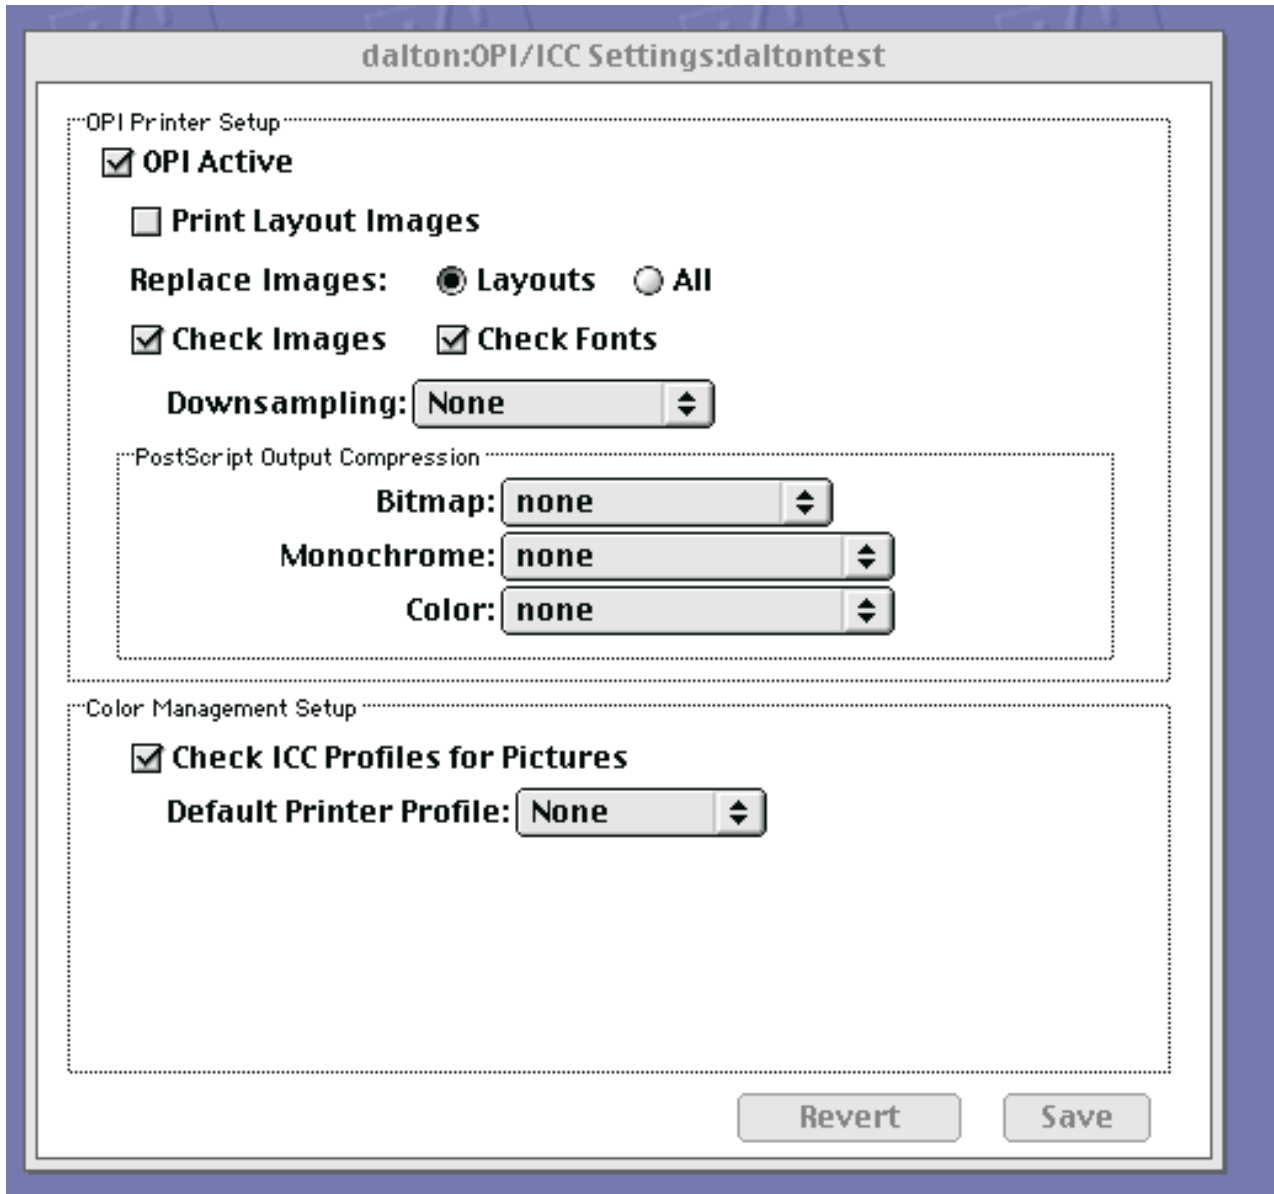

Figure 86. OPI/ICC Settings window
7. From the dialog (displayed in Figure 86 on page 372), ensure that the **OPI Active** checkbox is checked.
- Checking the OPI/ICC Settings on the Helios print queue (see Figure 86 on page 372). Ensure that the check boxes for **OPI Active**, **Check Images**, **Check Fonts**, and **Check ICC Profile for Pictures** have all been checked. If any are unchecked, check those check boxes, save the settings, and try running the jobs again.